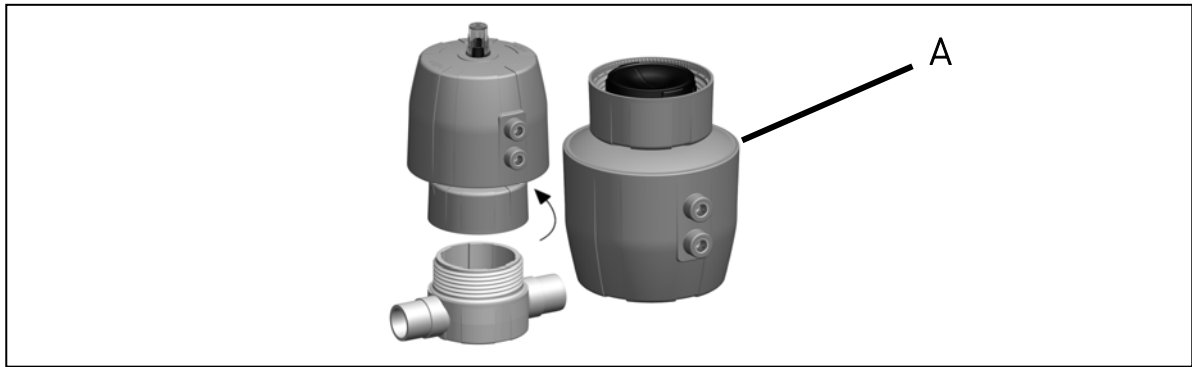

Fig. 21
- ▶ Open housing nut **A** with a strap wrench, take actuator out, see fig. 21. Use a strap wrench.